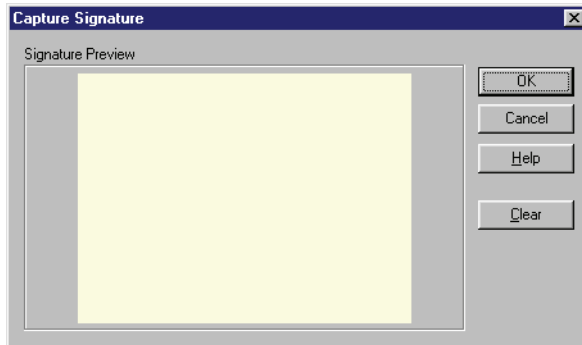

Figure 9-30 Capture Signature Window
- Click on the button and the Capture Signature window appears (see Figure 9-30).